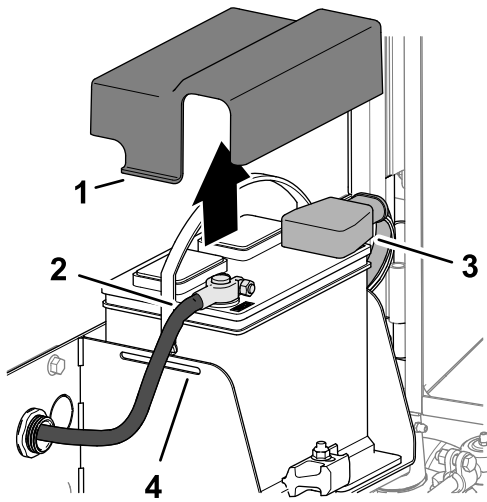

Figure 85
3. Press the sides of the battery cover, and remove the cover from the battery tray (Figure 85).